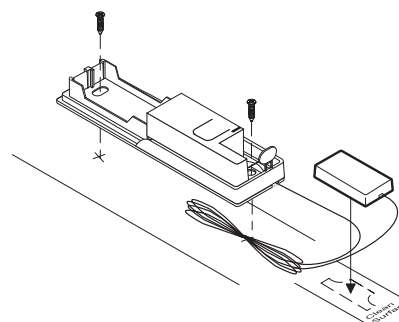

Figure 5. Installing the Water Sensor *with* Screws
- Use the included #6 pan head screws to secure the *transmitter* to the mounting surface. If mounting on plaster, use the appropriate fasteners. Use the slotted mounting hole for alignment (see Figure 5).